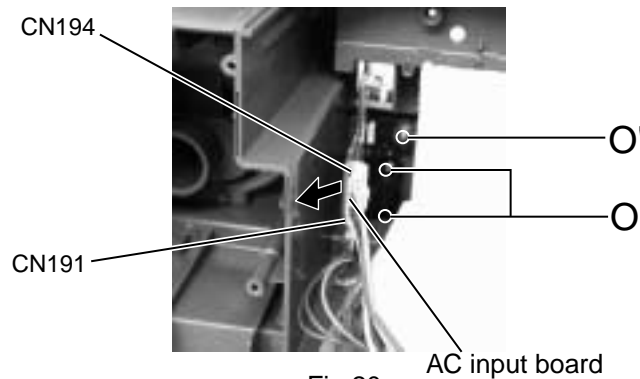

Fig.20
■ Removing the AC input board (See Fig.20)